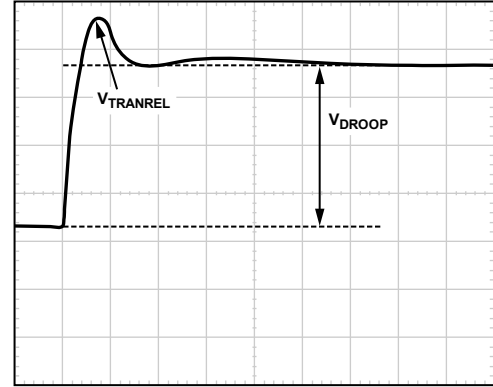

Figure 29. Transient Setting Waveform, Load Release
3. For load release (see Figure 29), if $V_{TRANREL}$ is larger than the value specified by IMVP-6.5, a greater percentage of output capacitance is needed. Either increase the capacitance directly or decrease the inductor values. (If inductors are changed, however, it will be necessary to redesign the circuit using the information from the spreadsheet and to repeat all tuning guide procedures).